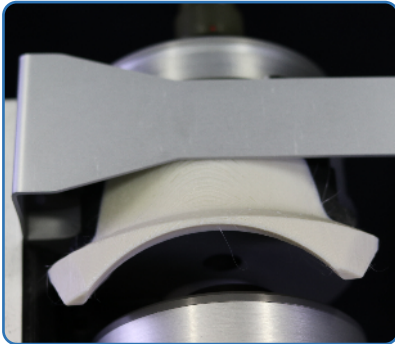

Figure 20: Put the anti-dust cap
2. Place the anti-dust device (Figure 20)